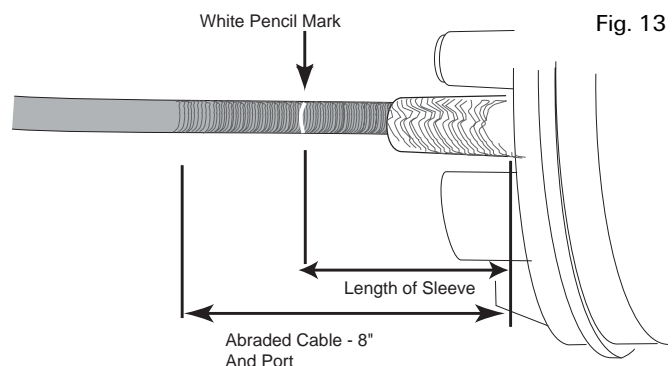

Fig. 13
1. Clean the port and 8" of cable sheath beyond the port edge thoroughly with the supplied cleaning tissue. (Figure 13)